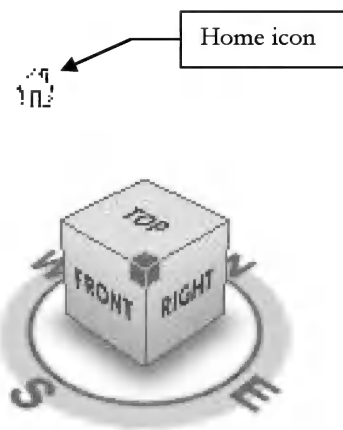

FIGURE 1-5.5 ViewCube
11. You should notice the *ViewCube* in the upper right corner of the drawing window (Figure 1-5.5). If not, you can turn it on by clicking *View* → *Windows* → *User Interface* → *ViewCube*.